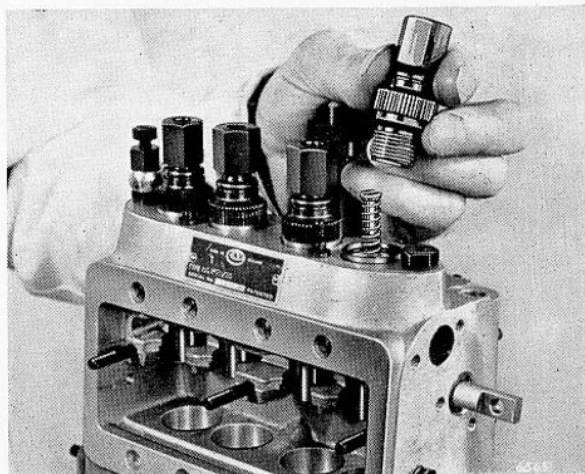
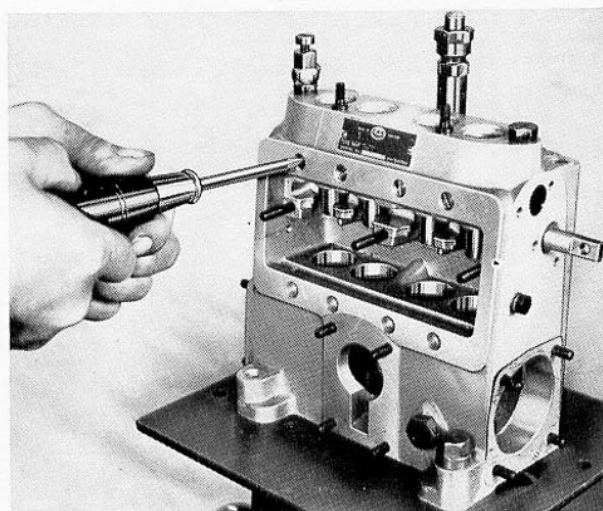

FIG. 8. REMOVING THE DELIVERY VALVE HOLDERS
FIG. 9. UNSCREWING THE BARREL LOCKING SCREWS
C.A.V. Part No. 6044/661 unscrew and carefully remove the delivery valve holders from the pump housing. The delivery valve spring and spring peg are released as the valve holder is removed and will be dislodged if the holder is not removed with care (Fig. 8).
20. Remove each delivery valve spring (3) and peg (2), also the steel washers and low pressure seals.
21. Remove the delivery valve (4) and seating (5) complete with the high pressure seal.
22. Remove the barrel locking screws (6) and pushing the barrels upwards, withdraw them from the pump housing (Figs. 9 and 10).